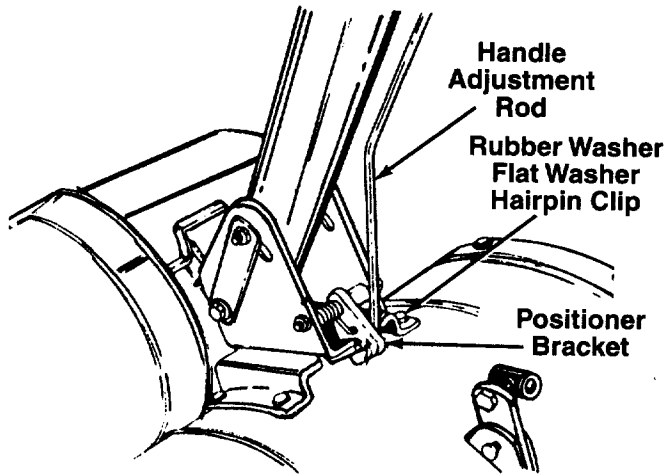

FIGURE 6.—Model 420 Only
2. Insert the end of the handle adjustment rod into the positioner bracket beneath the handle, on top of the tine shield. See figure 6. Secure with rubber washer first, then flat washer and hairpin clip.